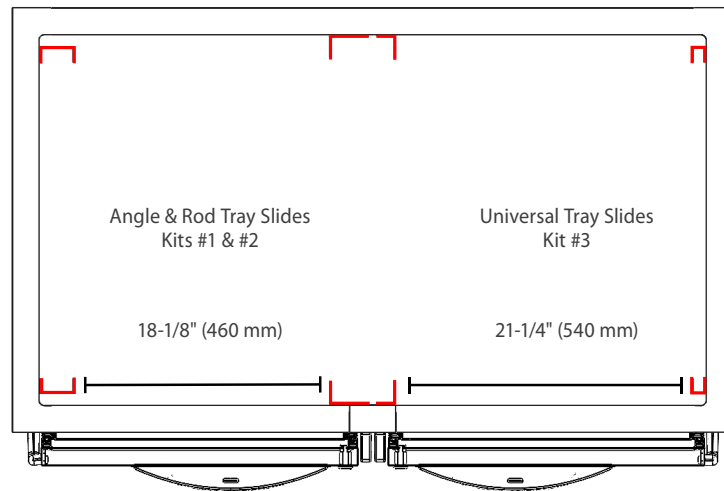

Fig. 5. Measure the distance between pilasters. Top-down view.
4. Verify the width between the pilasters. See figs. 5 and 6.